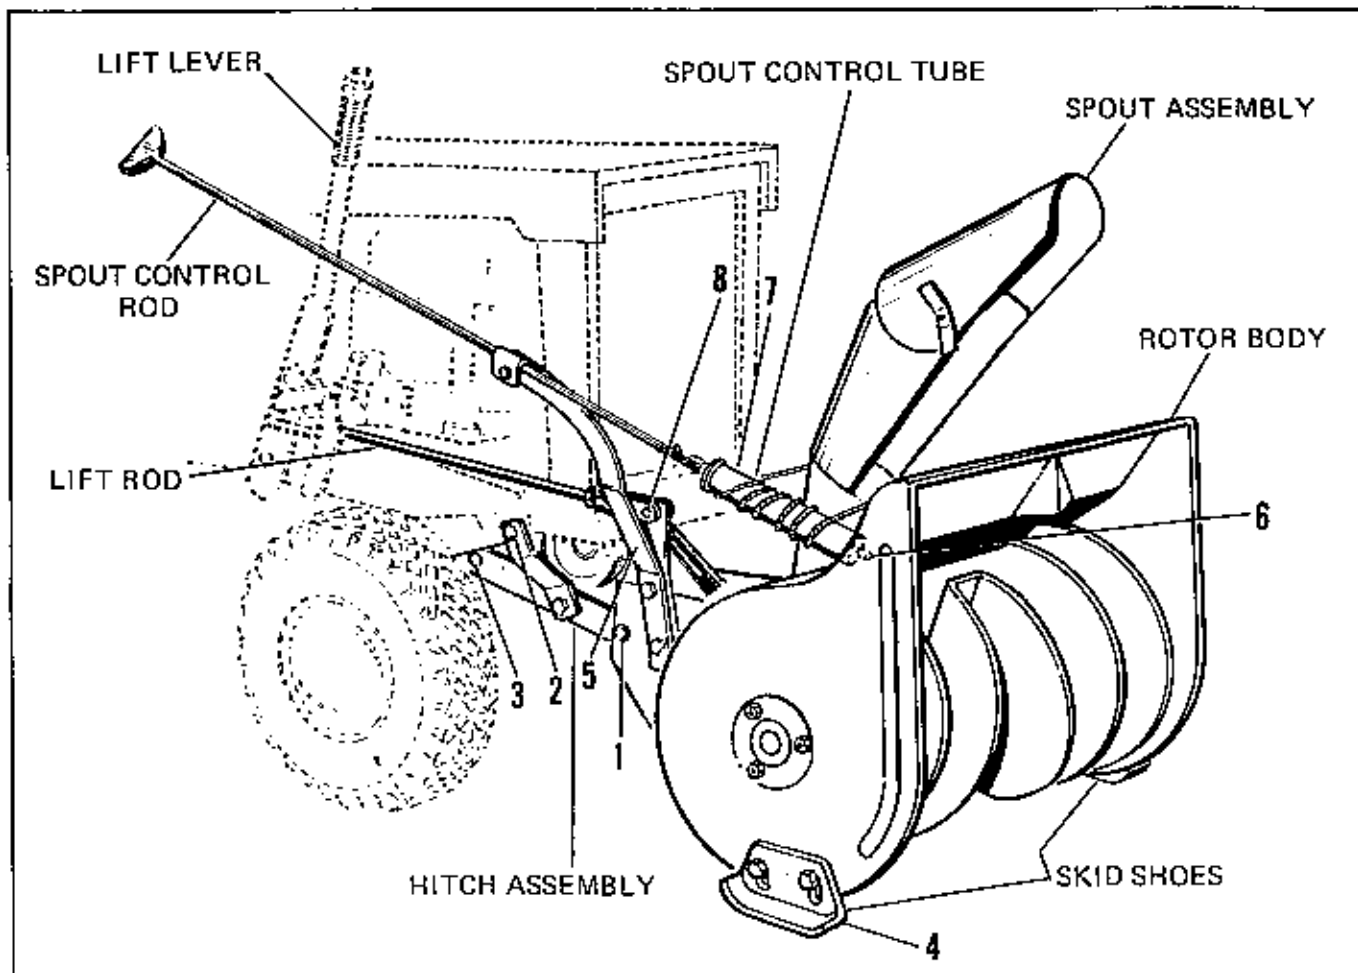
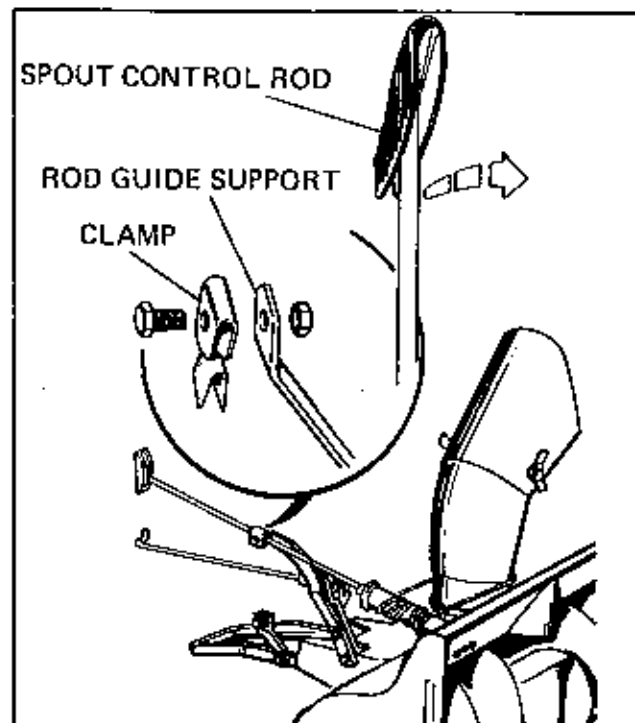

Figure 1.
Figure 4.
1. Attach the hitch assembly to rotor body assembly with the (2) pins and spring clips provided. See (1), Figure 1.
3. Place the hitch assembly under the front end of the tractor. The hitch is suspended beneath the tractor at points 2 and 3 as shown in Figure 1.
5. Attach the skid shoes to the body assembly using the  $3/8''-16 \times 3/4''$  carriage bolts,  $3/8''$  plain washer,  $3/8''$  lockwasher and  $3/8''-16$  full hex nuts as shown at (4), Figure 1.
7. Attach the spout control rod support bracket (5), Figure 1, with two  $3/8''-16 \times 1''$  long hex capscrews and  $3/8''$  lockwashers and  $3/8''-16$  hex nuts.
8. Insert spout control tube into nylon bearing on body assembly (See (3), Figure 1) and secure in place with two  $1/8'' \times 3/4''$  cotter pins. Insert the spout control rod in the spout control tube and secure with the  $5/32'' \times 1''$  cotter pin.
9. Position discharge spout directly forward. Position control tube so the cable clamp faces the side of the spout. Provide 2-1/2 coils on top and 2-1/2 coils on the bottom. The end of the cable closest to operator passes under the tube. The end away from operator passes over the top of tube. See (7), Figure 1. In order to insure tightness of the spout cable, it is helpful to slant the control tube slightly inboard in relation to the rod guide support as shown in Figure 4. Position the free ends of the cable around the spout and clamp securely with the cup washer,  $5/16''$  lockwasher and  $5/16''-18$  full hex nut. Move the spout control rod back to the
10. Connect one end of the lift rod (8), Figure 1, to the lift bracket on the rotor housing, using a spring clip. The other end of the lift rod is connected to the lift lever on the tractor and is secured with a spring clip.